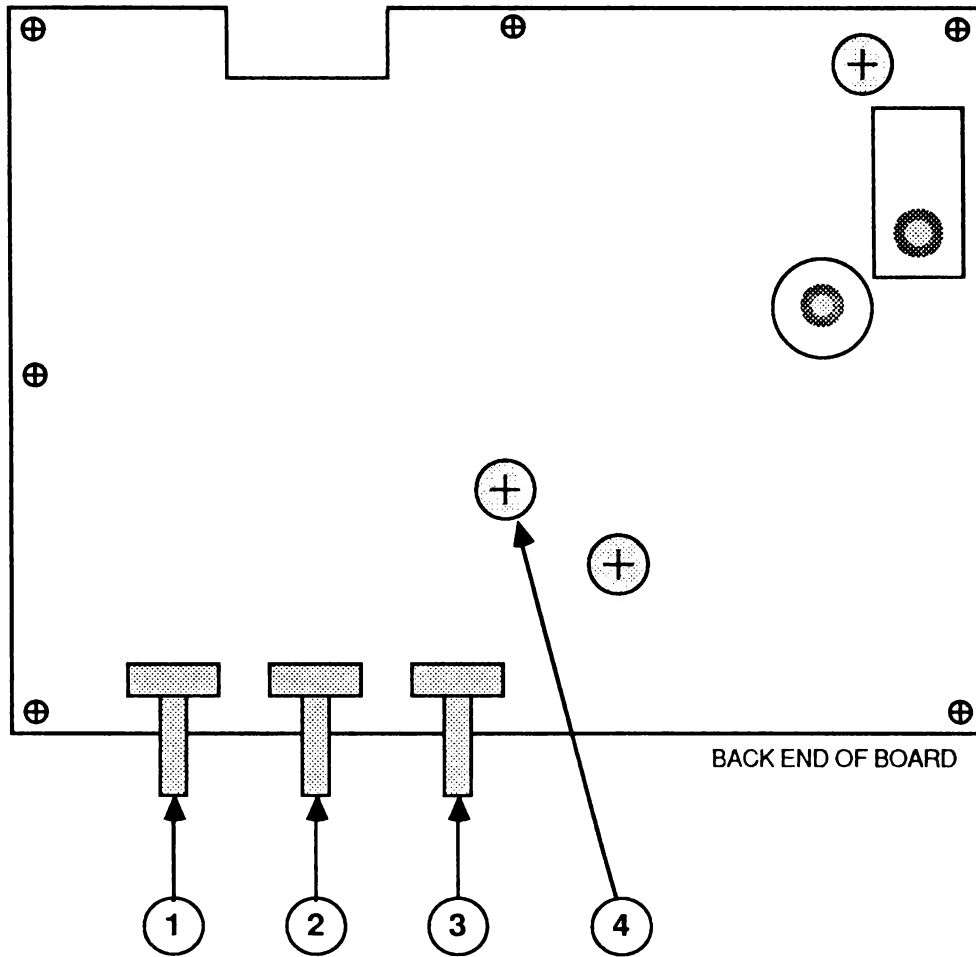

FIGURE 12
1. Set the vertical hold control R302 (see Figure 12, #1) near the mechanical center of its rotation. This should lock the picture on the screen and prevent any rolling. ||
2. **Linearity:** If the vertical linearity is off, adjust R307 (see Figure 12, #4) until the best linearity is found. Compare top and bottom characters or grid boxes and try to get them even. It's possible to reach the end of the adjustment range of the pot and find that the linearity is still not correct. That's because the height adjustment can affect the linearity. If this happens, leave the pot at the end of its range and proceed to step 3. ||
3. **Height:** If the vertical height of the image is incorrect, adjust R305 (see Figure 12, #2) until the desired height is obtained. A good method is as follows: ||
- b) Turn the brightness control R506 (see Figure 12, #3) clockwise until you can see black edges at the top and bottom of the screen. If you don't see black edges on the top and bottom, turn the height pot R305 counterclockwise until the pattern is squeezed and the black area appears. If the pattern becomes blurred, then the brightness control is turned too far. ||